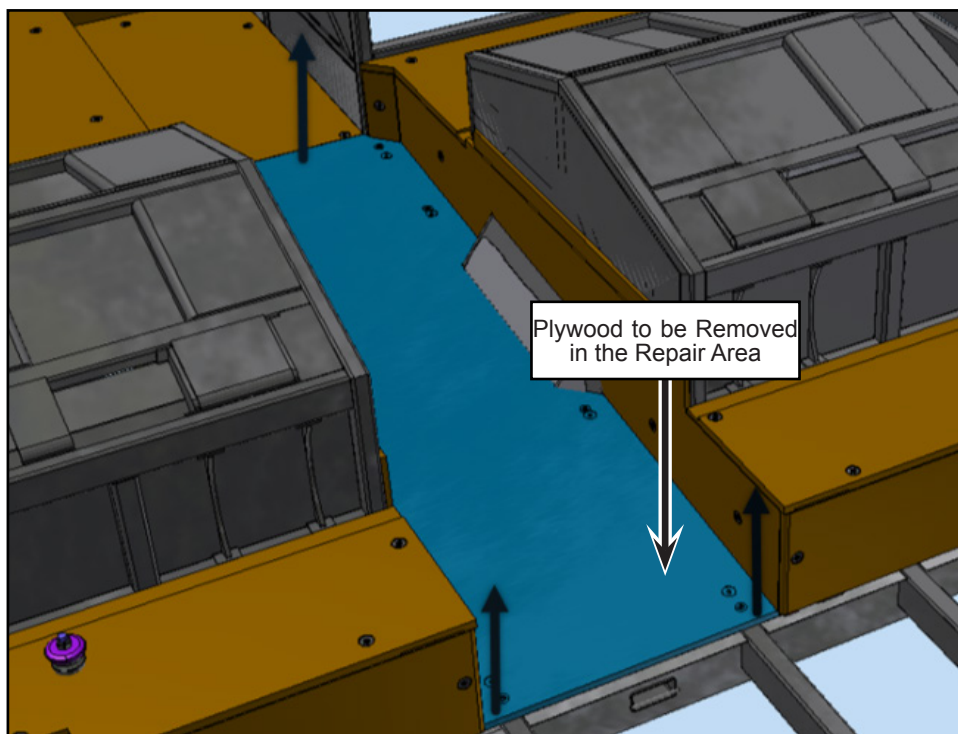

Figure 5 - Removal of Floor Plywood
- 2.17. Remove the existing floor plywood in the repair area (see Figure 5).